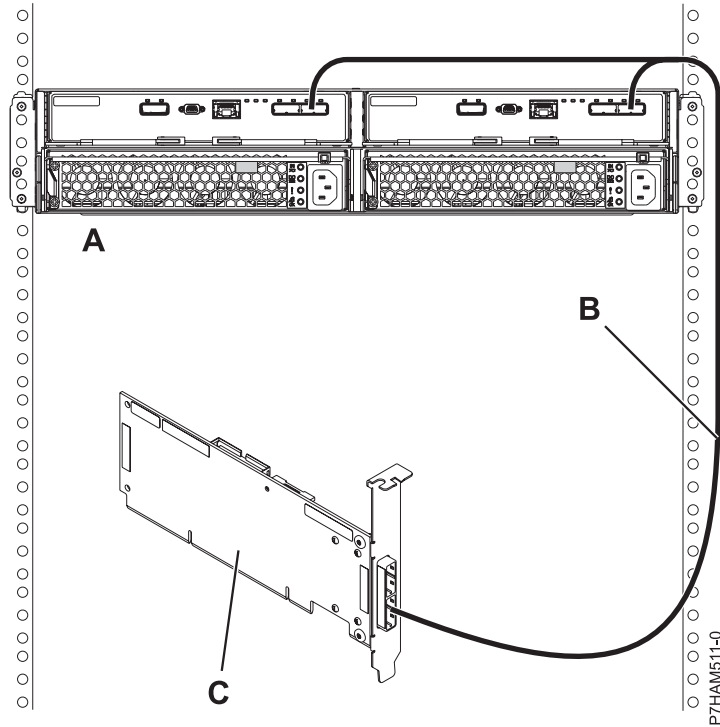

Figure 35. Mode 1 connection of one 5887 disk drive enclosure by using a YO cable to a single SAS adapter
9. Perform the mode 1 connection of one 5887 disk drive enclosure (A) by using a YO cable (B) to a single SAS adapter (C) as shown in Figure 35 on page 77.